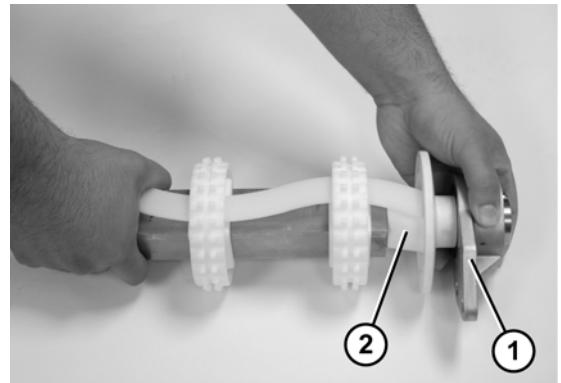

Figure 59
9. Slide the 3 hole flange with bearing (**Figure 59, item 1**) and flanged puck (**Figure 59, item 2**) off the drive spindle.